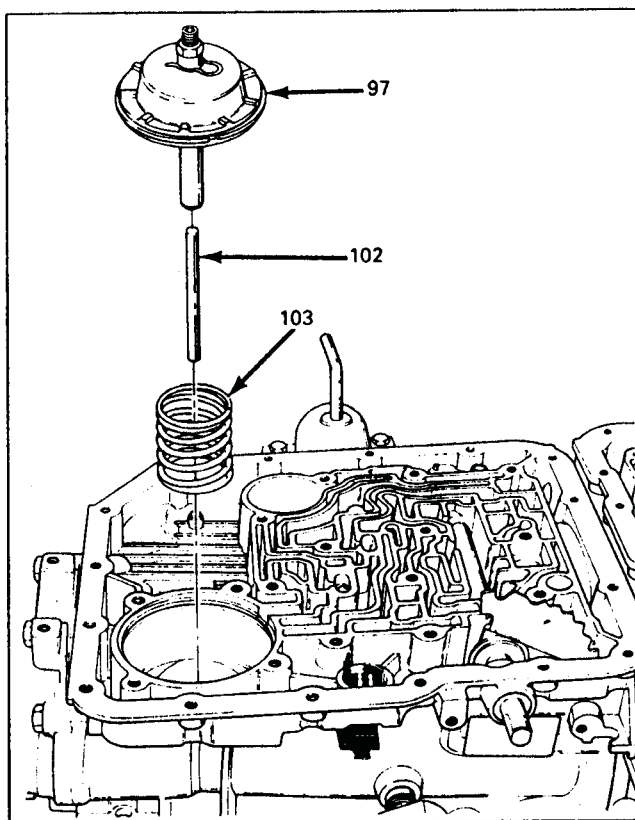

Figure 19
19. Remove the servo piston, servo piston apply pin, and servo piston return spring (See Figure 19).